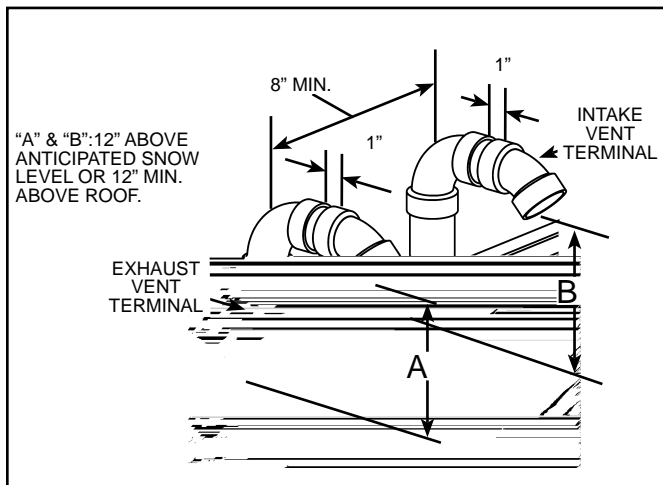

Figure 22.
**Important:** When terminating the vents through a roof, the following specifications pertaining to terminal location must be followed (see Figure 22).